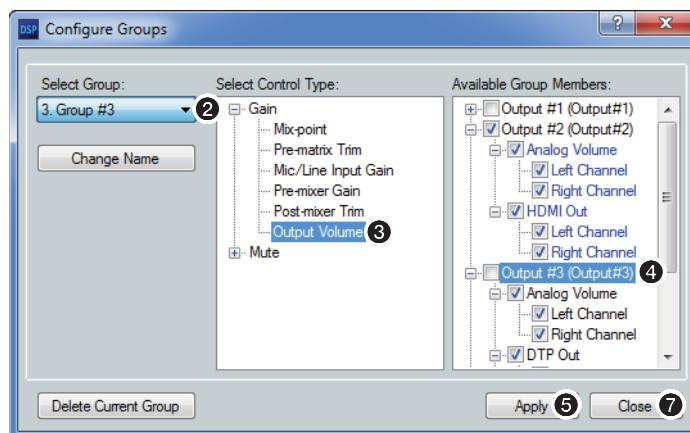

Figure 53. Configure Groups Dialog Box
2. In the **Select Group** drop-down box, click a group to select it (see figure 53, **①**).
2. In the **Select Group** drop-down box, click a numbered group (such as **Group #3**) to select it (see figure 53 on page 101).
- Click **Add a Group** to open the Configure Groups dialog box (see **Configuring a group master** and **figure 53** on page 101).